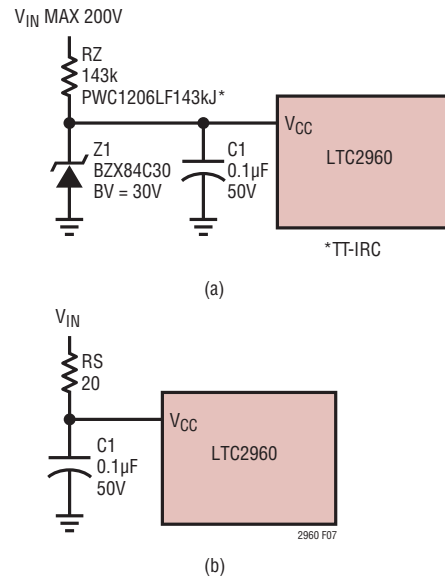

Figure 7. Operation with High Voltage Transients and Hot Swapping
The circuit in Figure 7(a) allows the LTC2960 to withstand high voltage transients. The magnitude of the voltage transients that can be absorbed is set by the voltage rating of RZ. A TT-IRC pulse-withstanding surface mount 1206 resistor with a nominal voltage rating of 200V is used. The external 30V Zener diode (Z1) and the 143kΩ current limiting resistor (RZ) protect the V_{IN} supply pin of the LTC2960. Note that there is a speed penalty which is the time constant determined by RZ and C1, 14.3ms in this example. If V_{IN} is below 30V, there is a voltage drop across RZ that is dependent on the quiescent current of the LTC2960 which is nominally less than 150mV but can be as high as 290mV if $\overline{\text{MR}}$ is pulled low. The maximum voltage drop is determined by the maximum specified I_{CC} and $\overline{\text{MR}}$ pull-up currents. For conditions where the Zener conducts current, it can be biased in the microamp range owing to the low quiescent current of the LTC2960. For a supply voltage of 150V, the Zener is biased <1mA. When input pins are used to sense V_{IN}, the input pins ADJ/IN⁺/IN⁻ absolute maximum rating of 3.5V must not be exceeded. V_{IN} can be a maximum of 8.75x the lowest programmed threshold to satisfy this condition. For a maximum V_{IN} of 150V, the lowest programmable threshold is >17V.
One effective means to eliminate ringing is to include a 10–100Ω resistance in series with the supply input before the V_{CC} capacitor shown in Figure 7(b). This provides damping for the resonant circuit but imposes a time constant to V_{CC} . In Figure 7(b), the time constant of R_S and C_1 is 2μs.